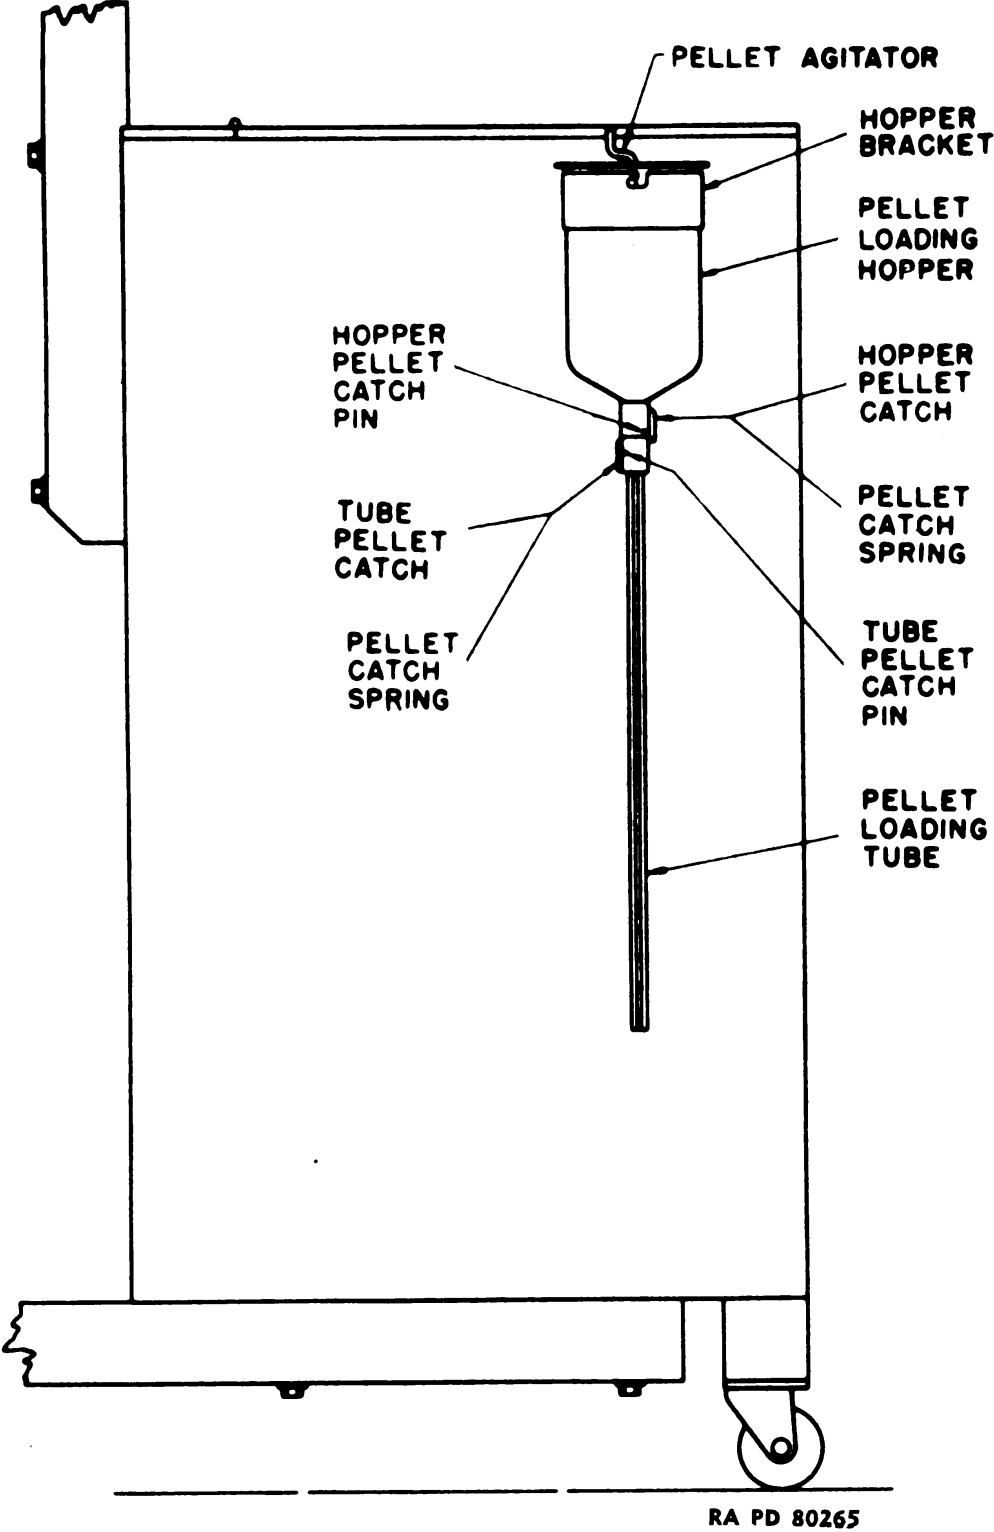

Figure 160 — Loading Tube Under Pellet Loading Hopper
a. The agitator (figs. 160 and 161) and the pellet catch on the loading hopper must operate smoothly. Failure of the pellet catch to operate may be due to binding or to a broken spring. If broken, replace the spring. In order to make the replacement, drive out the retaining pin. Binding may also be caused by corrosion. To relieve binding due to corrosion, disassemble, clean, and oil, using engine oil SAE 10.